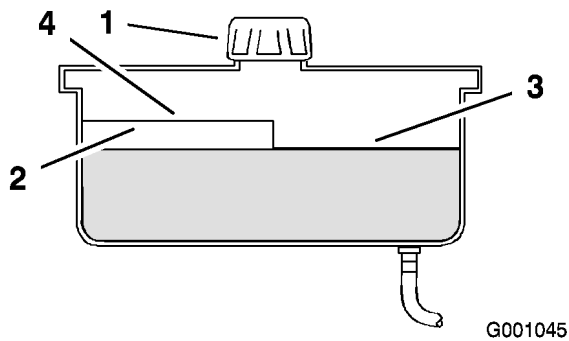

Figure 54
2. Clean the area around filler neck of hydraulic tank (Figure 54).
3. Remove the cap from the filler neck. Look inside to check if there is fluid in the reservoir (Figure 54).
Note: The fluid level should be to the top of the hot level of the baffle, when the fluid is hot (Figure 54).